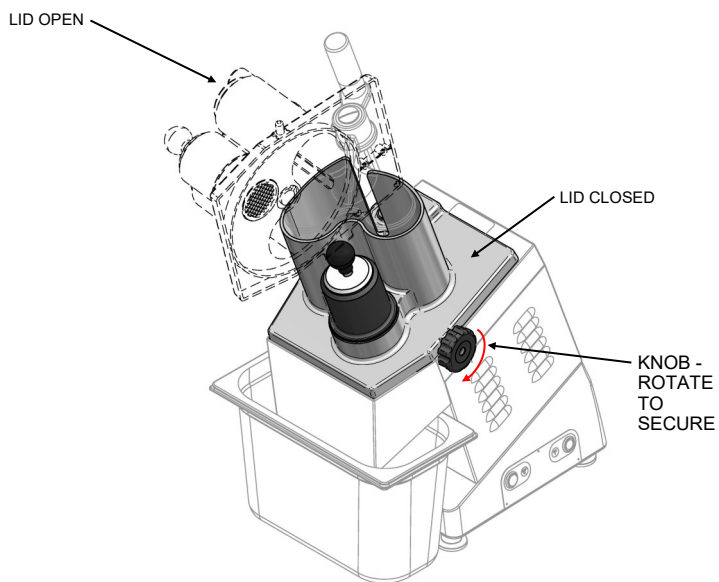

Fig 4: Knob and Lid Interlock
- b) On the hopper, if the lid is opened. The lid must be closed and the knob secured to operate the machine. (Fig 4)